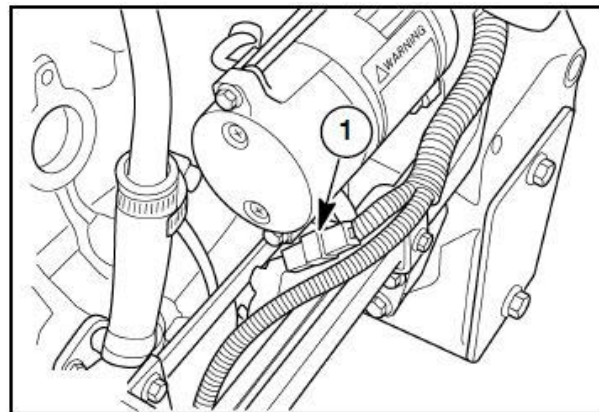

Figure 3-34
The main 40-amp fuse (1) in Figure 3-34, is located on the LH side of the engine, between the starter and the alternator. This fuse protects the tractor's entire electrical system.